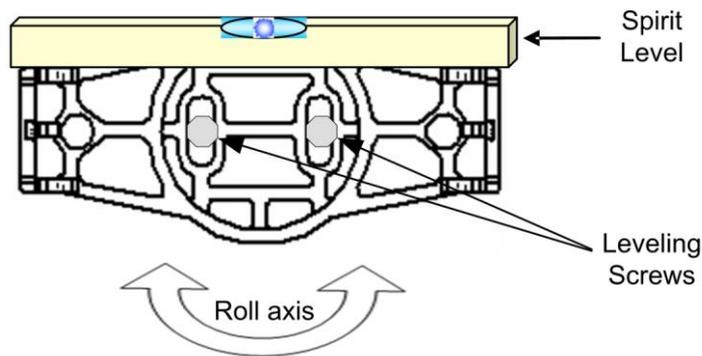

Figure 14: Leveling the *AfiFree* Body Bracket – Roll Axis
1. Slightly loosen both leveling screws (Figure 14).
2. Place a spirit level on both arms of the bracket and level the bracket manually along the roll axis (Figure 14).